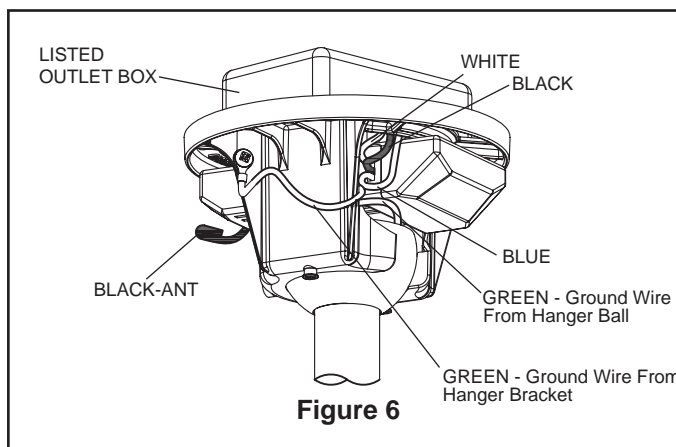

Figure 6
6. Assemble the housing ring assembly through the motor assembly. Slightly loosen the three screws. Assemble the housing ring assembly to the light plate assembly using the three key slots. Twisting in clockwise direction and securely tighten all three screws. (Figure 6).
5. After connections have been made, turn leads upward and carefully push leads into the outlet box, with the white and green leads to one side of the box and the black leads towards the other side. The wires should be spread apart with the grounded conductor and the equipment-grounding conductor on one side of the outlet box and the ungrounded conductor on the other side of the outlet box (Figure 6).
6. Remove the three trim screws of support bracket from the housing ring assembly. Retain the screws for reinstallation in next step (Figure 6).